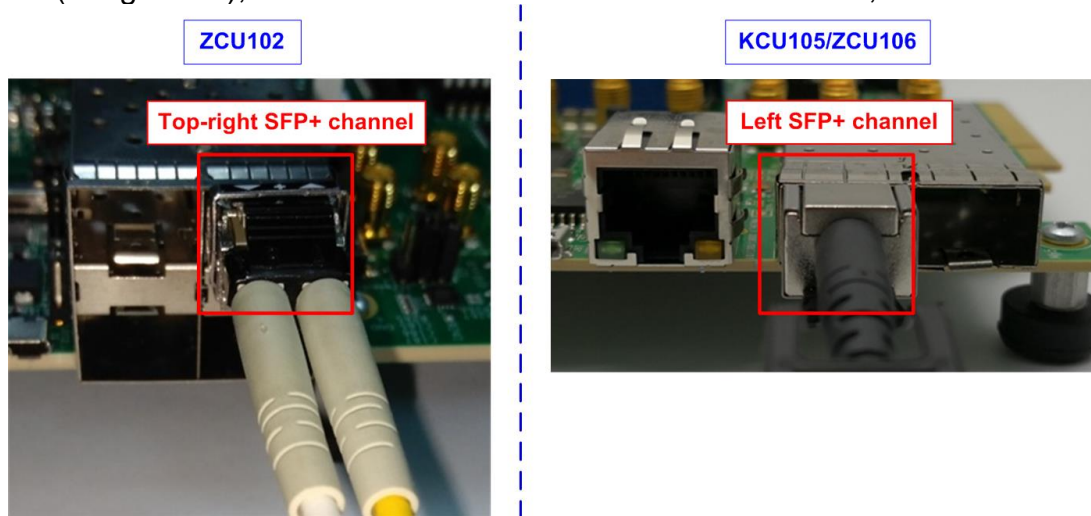

Figure 2-5 SFP+ channel using on ZCU102/ZCU106/KCU105 board
- 4) Connect 10Gb Ethernet cable between FPGA board and PC by inserting 10 Gb SFP+ DAC (Length<1m), AOC or SFP+ transceiver with LC-LC cable, as shown in Figure 2-5.